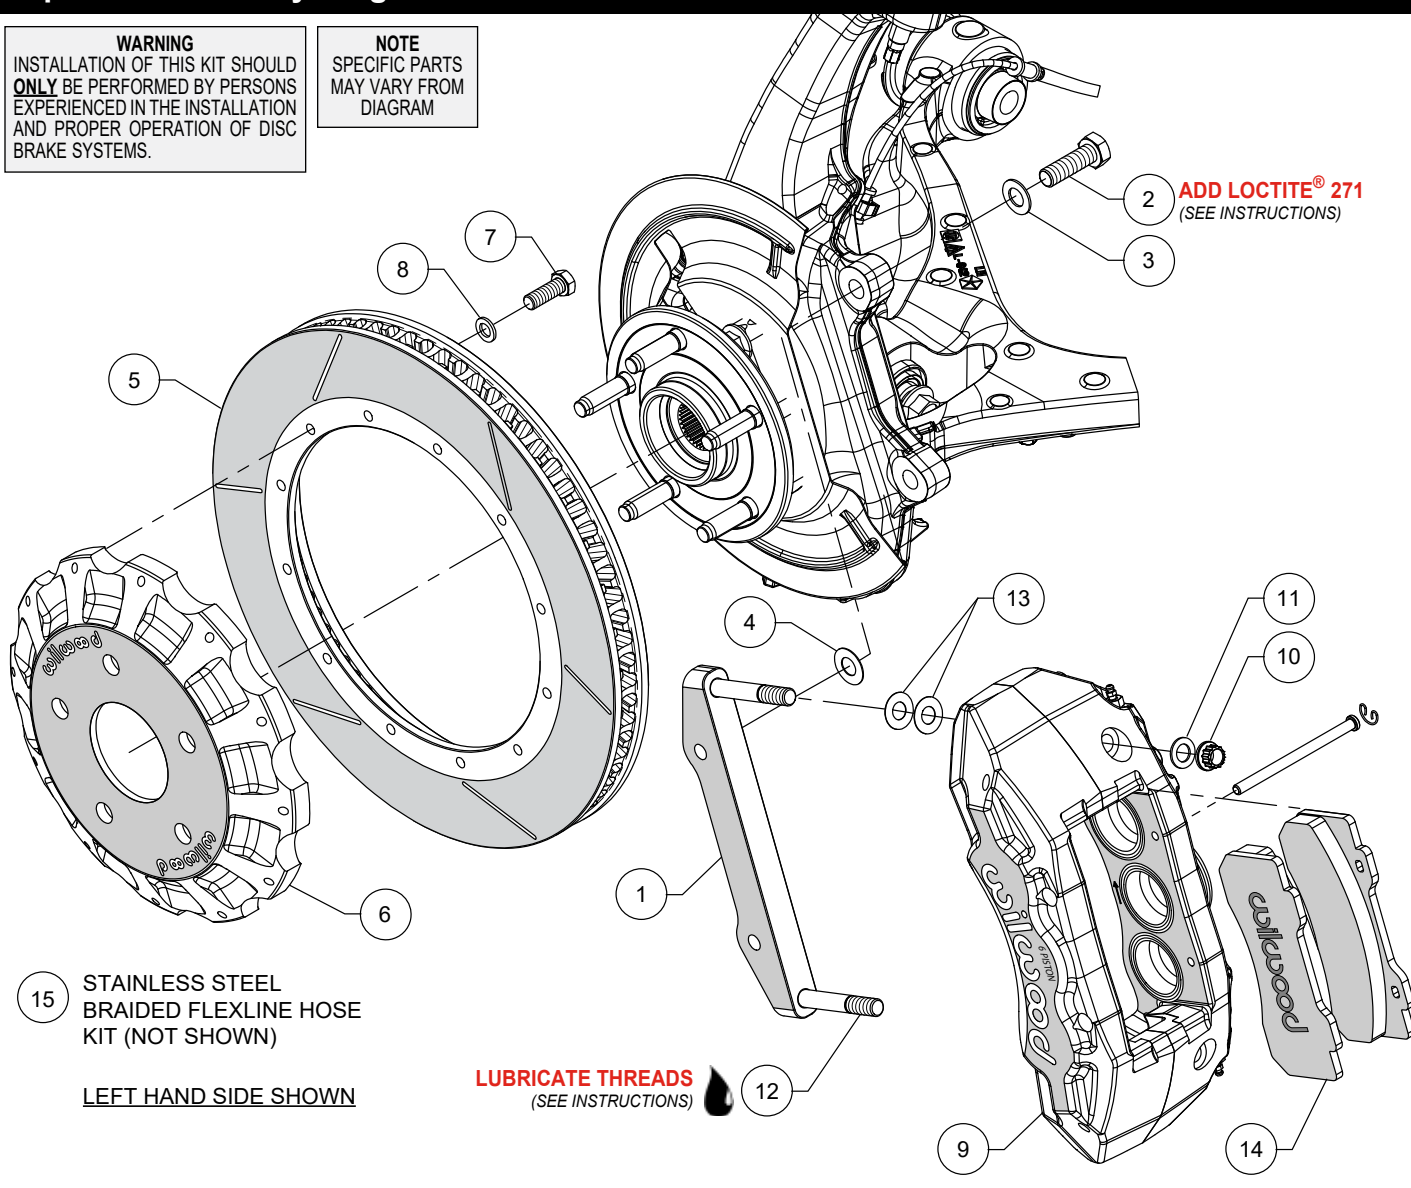
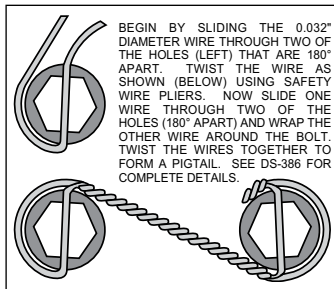

Figure 1. Typical Installation Configuration
Figure 3. Safety Wire Diagram
**NOTE:** Numbers in parenthesis refer to the parts list and Figure 1 on the preceding pages.
- The caliper mount bracket (1) should initially be installed with clean, dry threads on the mounting bolts. Orient the bracket as shown in Figure 1 and Photo 1, and install using bolts (2) and washers (3). Initially place one .029 thick shim (4) on each bolt between the bracket and upright, Figure 1. Temporarily tighten the mounting bolts. **NOTE:** The bracket must fit squarely against the mount bosses on the upright. Inspect for interference from casting irregularities, machining ridges, burrs, etc. Later, after the caliper alignment has been checked, the mount bolts will be secured using red *Loctite*® 271.
- Orient the rotor (5) and the hat (6) as shown in Figure 1 and Photo 2. Attach rotor to hat using bolts (7) and washers (8). Torque bolts to 25 ft-lb using a criss-cross pattern. For an added measure of security, the bolts may be safety wired using standard 0.032 inch diameter stainless steel safety wire as shown in Figure 3. Please refer to Wilwood's data sheet DS-386 (available at [www.wilwood.com/Pdf/DataSheets/ds386.pdf](http://www.wilwood.com/Pdf/DataSheets/ds386.pdf)) for complete safety wire installation instructions.
- NOTE:** This kit contains distinct right and left hand calipers that must be mounted in a specific direction, as described below. Lubricate the caliper mounting studs (12) with lightweight oil. Initially place two .015" thick shims (13) on each stud as shown in Figure 1 and Photo 4. Mount the caliper (9) onto the bracket (1) using lock nuts (10) and washers (11), Figure 1. Ensure that the caliper is mounted so that the largest pistons are at the rotor exit end of the caliper, in relation to the direction of rotor rotation. Temporarily tighten the lock nuts and view the rotor through the top opening of the caliper. The rotor should be centered in the caliper, Photo 5. If not, adjust by adding or subtracting shims (4) between the bracket and the upright. Always use the same amount of shims on each of the two mounting bolts. Once the caliper alignment is correct, remove the bracket mounting bolts (2) one at a time, apply red *Loctite*® 271 to the threads, and torque to 77 ft-lb.
- Remove the two pad retaining pins from the caliper by carefully popping out the pin retaining clips and sliding out the pins. Insert the brake pads (14) into the caliper, with the friction material facing the rotor, as shown in Photo 6 and secure the brake pads in place with the pad retaining pins and clips, Figure 1. Check that the top of the brake pad is flush with the outside diameter of the rotor, Photo 7. If not, adjust by adding or subtracting shims (13) between the caliper and the bracket. After the caliper pad height is set, torque the caliper lock nuts (10) to 65 ft-lb.